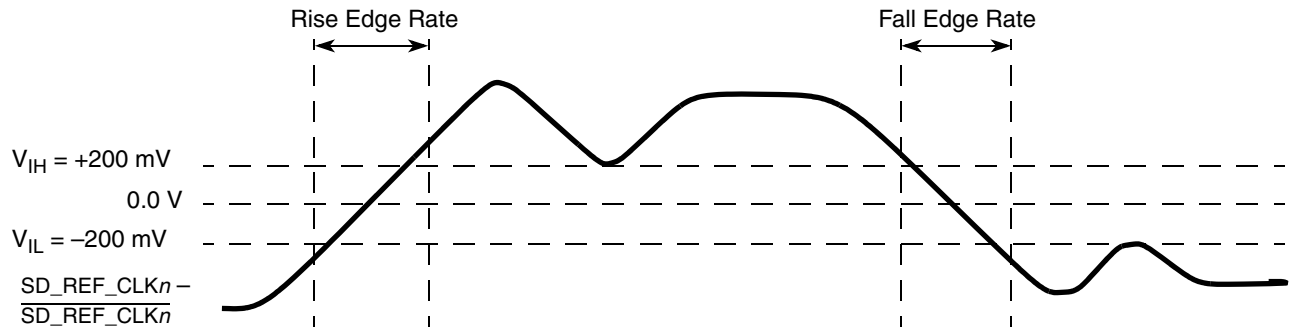

Figure 37. Differential Measurement Points for Rise and Fall Time
only one signal trace curve in a differential waveform. The voltage represented in the differential waveform is not referenced to ground. See Figure 37 as an example for differential waveform.
- Measured from -200 mV to +200 mV on the differential waveform (derived from SD_REF_CLK n minus $\overline{\text{SD_REF_CLK}}_n$). The signal must be monotonic through the measurement region for rise and fall time. The 400 mV measurement window is centered on the differential zero crossing. See Figure 37.